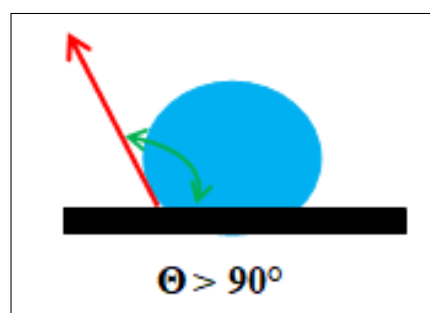

Figure 3.9: Not-wetting.
- $\theta > \frac{\pi}{2}$; Non-wetting (Figure 3.9).